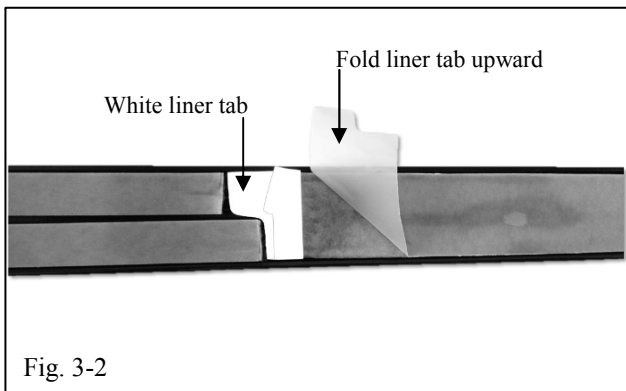

Fig. 3-2
- (b) Remove white liner tab and fold the adjacent liner tab upward at the front end of the molding such that the tabs are accessible during install (Fig. 3-2).